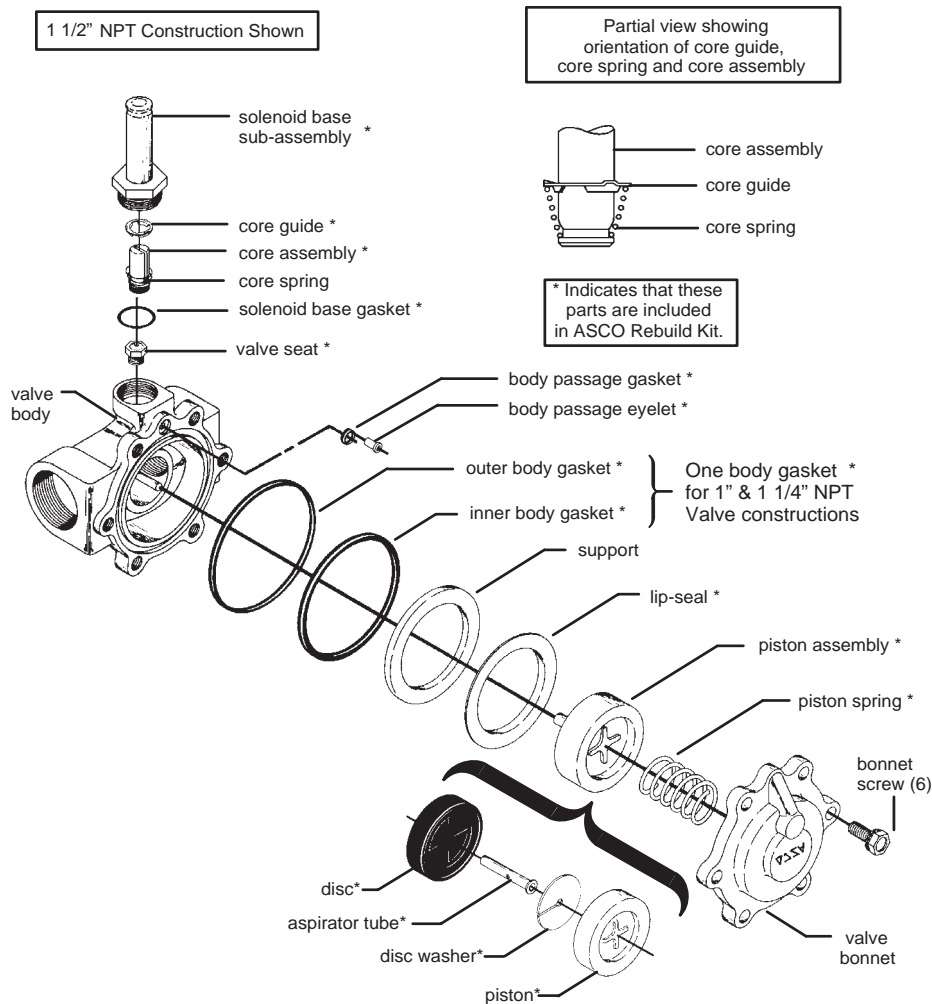

Figure 12
4. Remove bonnet screws and valve bonnet from the valve body. Then remove the following parts: piston spring, support, lip seal, piston assembly, body passage eyelet or body passage tube, body passage gasket, inner and outer body gaskets or large body gasket. (See Fig. 12).
11. Reassemble piston assembly following the views provided as per Fig. 12.
3. Remove the scrap screens and pump intake strainer. (See Fig 12 for element location in tank).